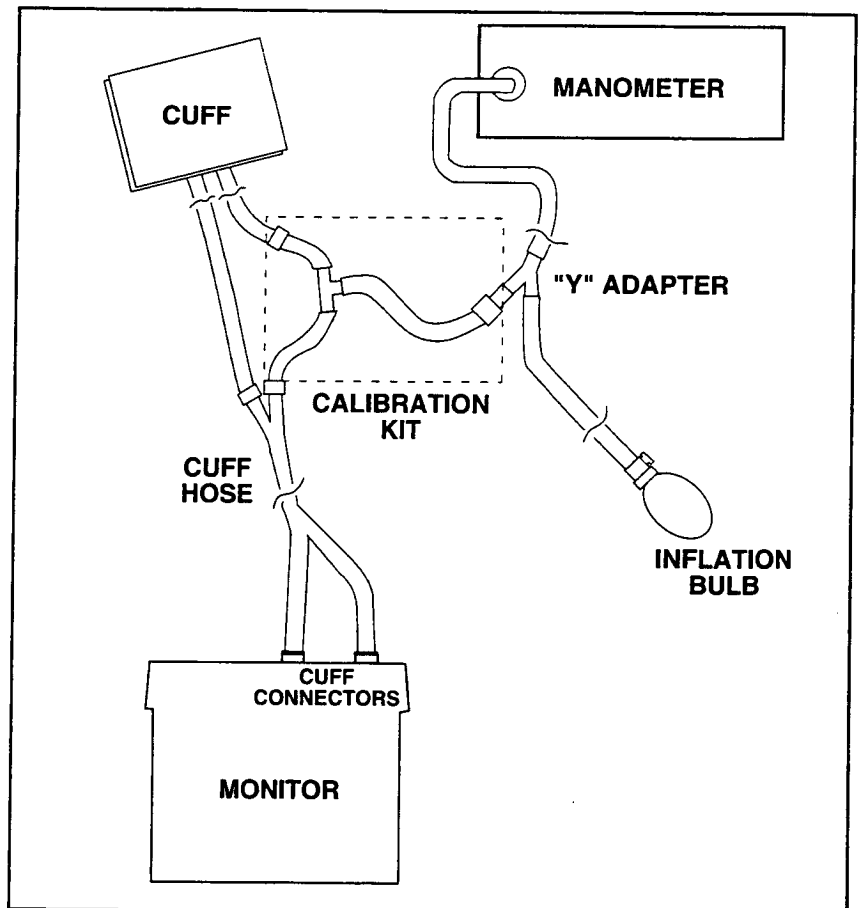

Figure 3-4. Pressure Calibration Check Setup
2. Connect a manometer to the Monitor using the parts supplied with the calibration kit as shown in Figure 3-4. In calibration procedure, use an adult cuff and air hose.
4. Verify that the manometer pressure does not fall by more than 5 mmHg in 60 seconds. If it does, either the cuff or hose or both are defective. If the cuff and hose pass this test, reconnect as shown in Figure 3-4 and place the Monitor in Calibration mode 2. Pump up the cuff and hose to  $200 \pm 1$  mmHg, and perform the same leak check to determine if the leak is, in fact, in the Monitor. Perform this leak check for all cuff and hose combinations used with the Monitor.
2. Connect a manometer to the Monitor using an adult cuff (reorder number 2774) and the 12 ft. hose (reorder number 8841) with the parts supplied with the calibration kit as shown in Figure 3-4.